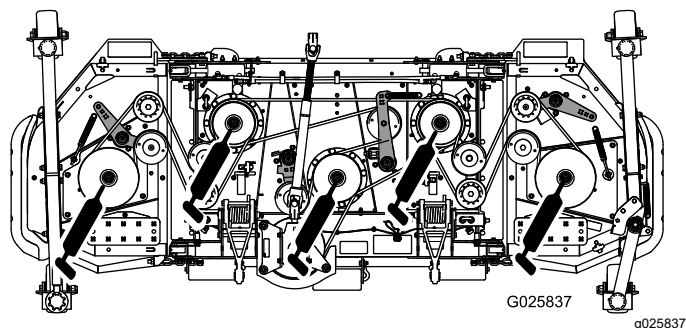

Figure 17
- Spindle shaft bearings (5) (Figure 17)